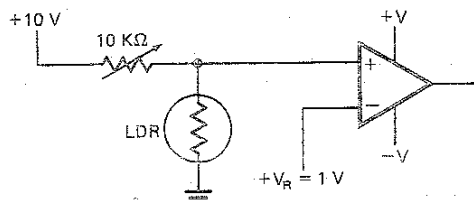

FIGURE 10-1. Circuit for question 2.
2. The circuit is shown in Figure 10-1.